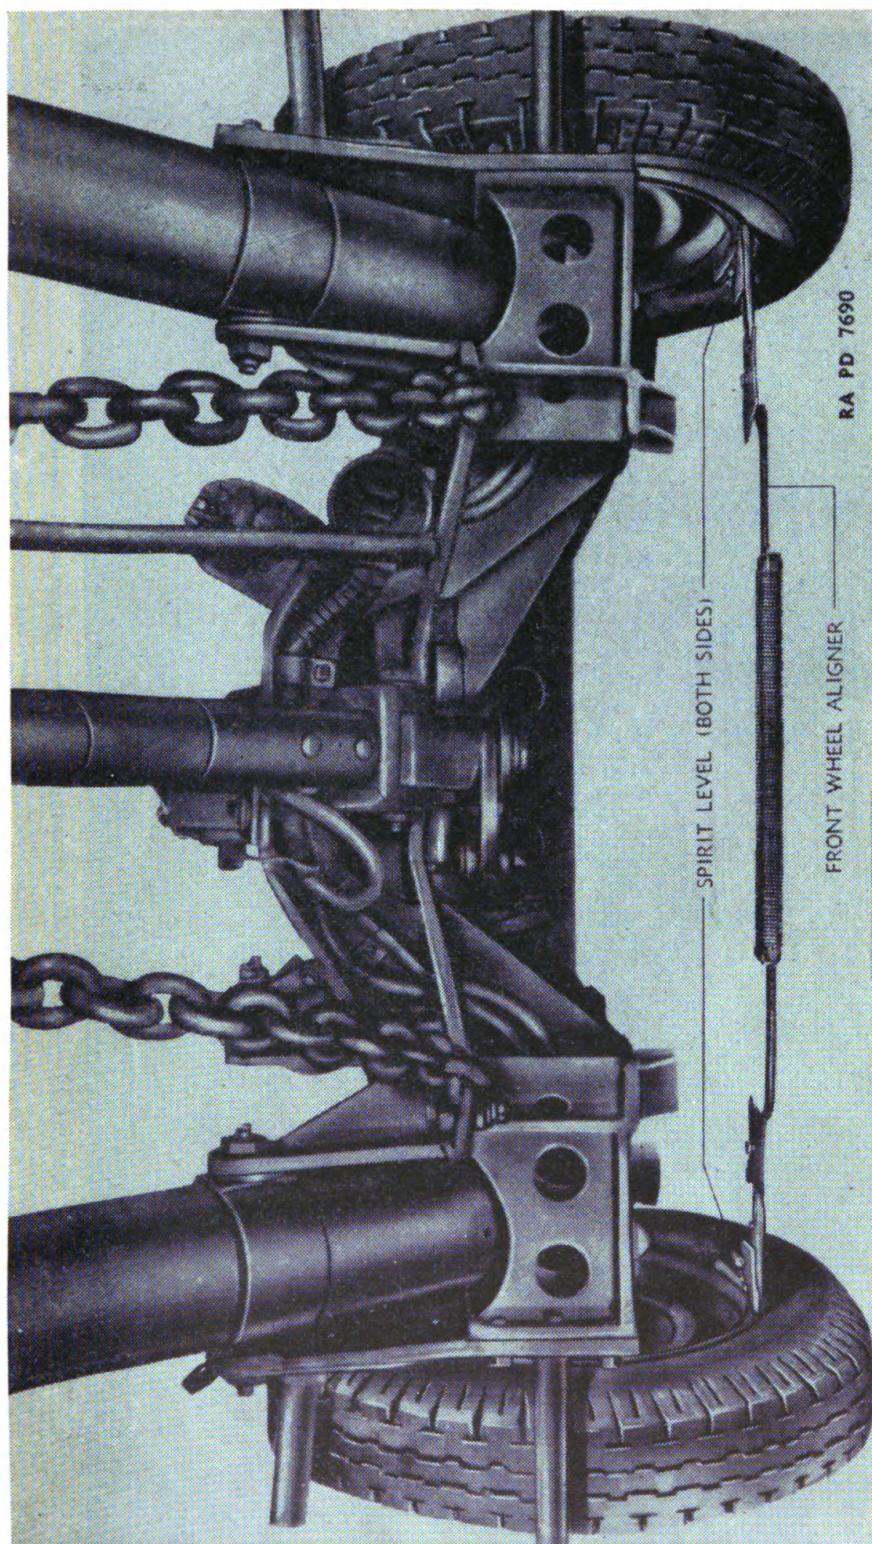

FIGURE 10.—Front wheel toe-in.
*e. Checking front wheel toe-in.*—(1) Place the wheel aliner between the front wheels in a horizontal position as shown in figure 10, leveling both ends with spirit levels. Press the aliner as far as possible into the curvature of the wheels. Turn the wheels until one dial registers zero. Press the front wheels apart at the front to take out the slack, keeping the pointer on one dial at zero. The other dial will then register the combined toe-in of the two front wheels in inches.